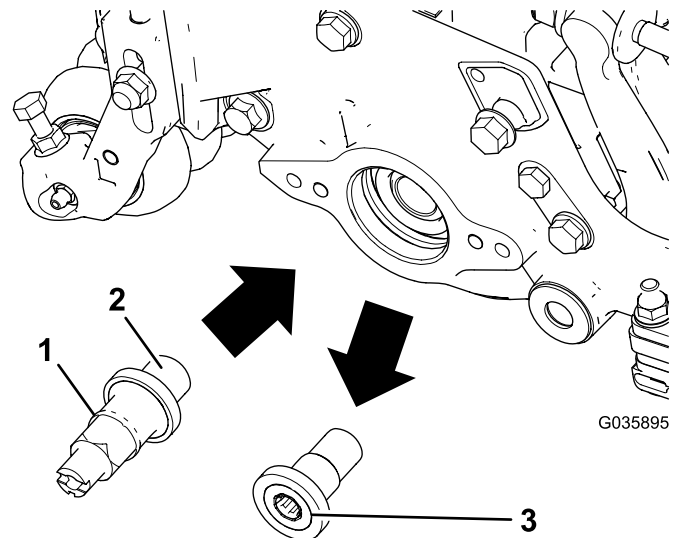

Figure 2
6. Use the Toro driveshaft tool (Part No. Tor4112) to remove the cutting-unit threaded insert for the rear roller-brush drive (Figure 2) and discard it.
8. Apply 242 Loctite (blue) to the threads on the appropriate driveshaft (Figure 2) and install the driveshaft, torquing it to 115 to 128 N·m (85 to 95 ft-lb).